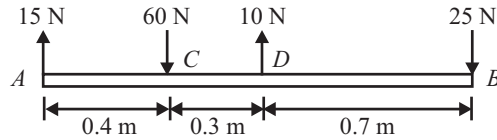

Fig. 7.53
Q. 42: A rigid body is subjected to a system of parallel forces as shown in Fig. 7.53. Reduce this system to,